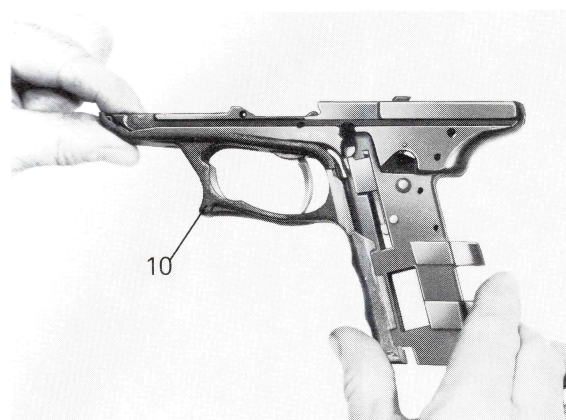

Fig. 33
- Mount the trigger guard (10) on the receiver pushing it up and pressing it until the trigger guard engages on both sides in the receiver (Fig. 33).